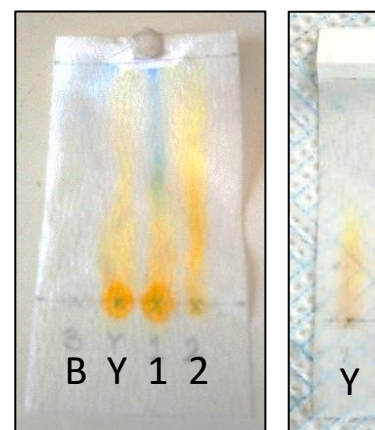

Figure 12. Yellow dye in water (left) and 1:1 isopropanol:water (right) as the eluent.
During Experiment 5c, the yellow commercial dye had an intense orange/yellow spot that remained on the baseline of the TLC sheet (see Figure 12, picture #1, spot “Y” below). Looking at the dye ingredients, it can be seen that the yellow commercial dye contains curcumin.
If we create a mobile phase that is a 1:1 isopropanol:water (these two solvents are fully miscible and transparent), we will obtain a TLC sheet that is different to the one we saw in Experiment 5c (Figure 12, spot “Y” – yellow dye).
- Unlike the TLC sheet in Experiment 5c (Figure 12, picture No. 1), there is not an intense spot being left on the baseline. Instead, the yellow-orange curcumin dye has moved up the TLC sheet (Figure 12, picture #2)!